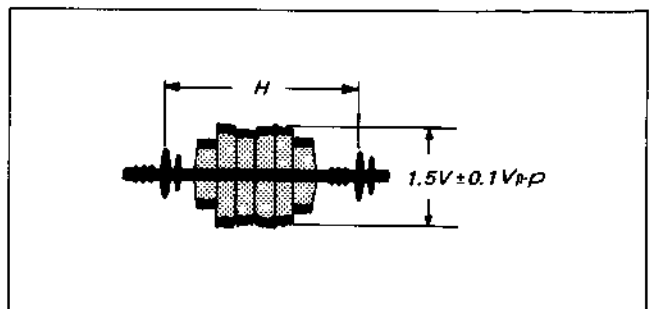

Fig. 4-4-13. ACC adjustment
- (1) Supply the VTR with the colour bar signal and set up the E-E mode.
- (2) Connect the oscilloscope to TP22 (pin 8 of IC2).
- (3) Adjust T5 for minimum output level.
- (4) Adjust RV16 for 1.5 V ± 0.1 Vp-p. (See Fig. 4-4-13.)